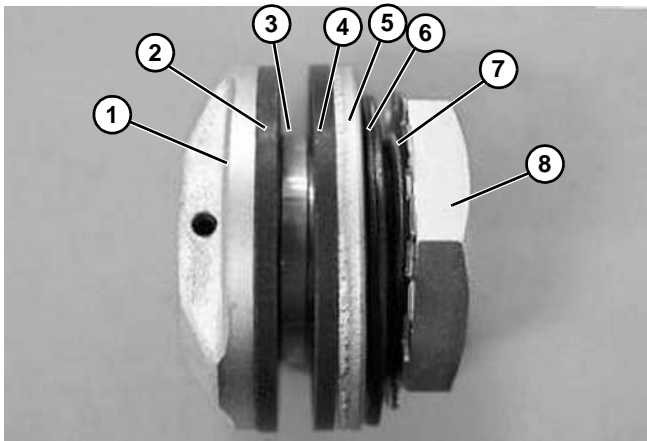

Figure 103
- Prevent damage to the products on the conveyor (See **Figure 103**.)